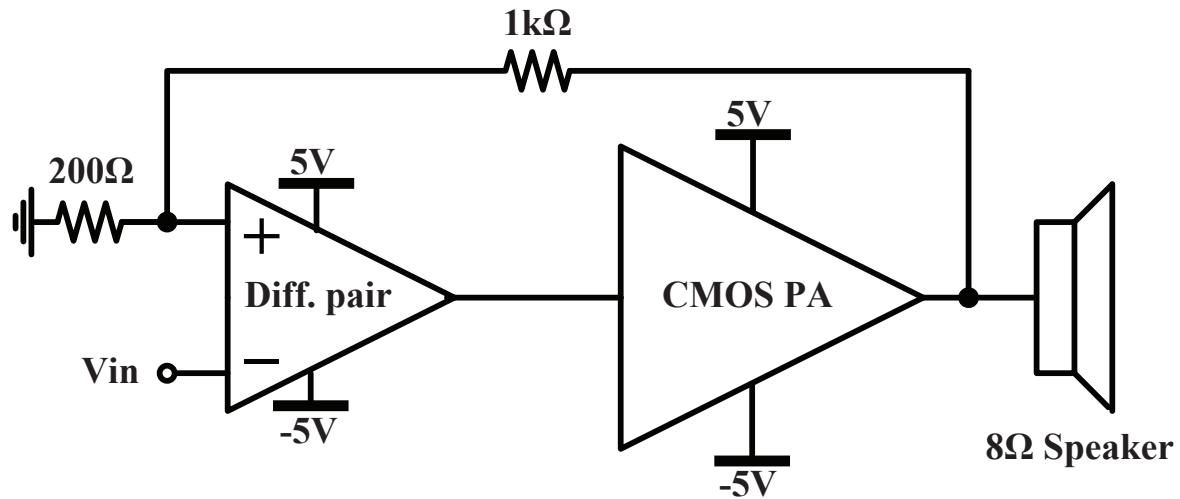
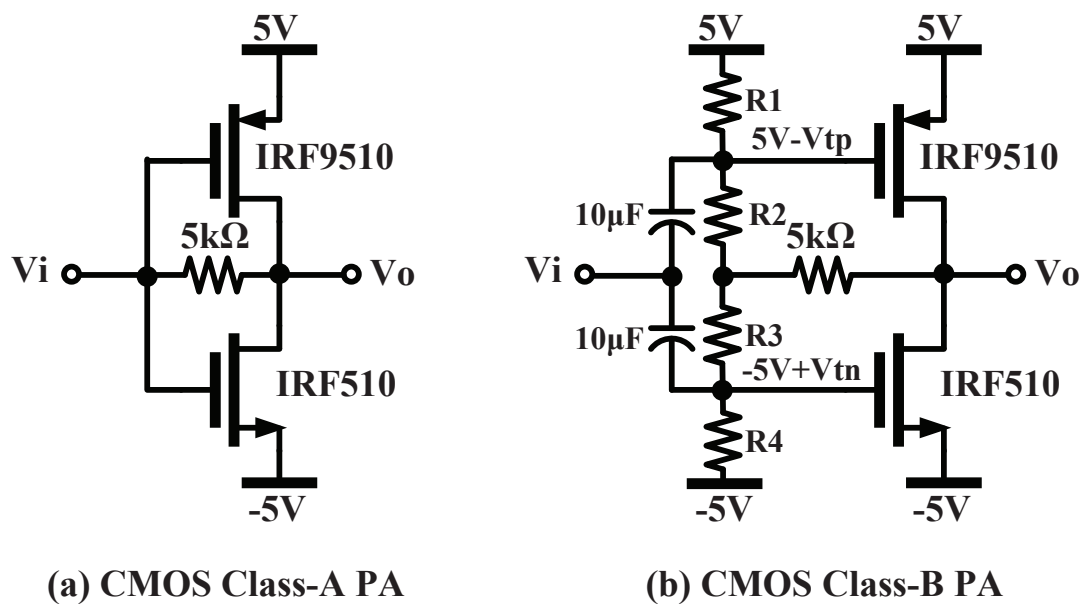

Figure 1: Audio power amplifier with feedback loop
Figure 2: CMOS output stages: a) Class A, b) Class B
Class A PAs are linear but have poor efficiency. In contrast, class B PAs can have very high efficiency but they operate under strong nonlinearities. The linearity of a class B PA can be significantly improved by employing a negative feedback around the power amplifier as shown in Figure 1. The opamp acts as an error amplifier which samples a fraction of the output voltage (V_o) and amplifies the difference between it and the input voltage (V_i).
In this lab, you will simulate and test the Audio Power Amplifier with feedback shown in Figure 1. This system consists of a differential pair, similar to the one in Lab 4, as well as a CMOS PA (also called "output stage"). You will build first a Class-A and then a Class-B output stage as shown in Figure 2. Then, you will build the differential pair, as shown in Figure 3. Finally, you will build the feedback loop around the differential pair and Class-B PA. For the differential pair, you will use transistors ALD1101 and ALD1102 as in Lab 4, while for the CMOS PA, you will use power transistors IRF510 and IRF9510. The power transistors have large $V_{breakdown}$ and are able to sustain large currents and voltages ($> 10A, < 10V$) at their terminals. An $8\text{-}\Omega$ speaker is connected to the output to convert voltage to sound.
1. Run a 50-ms transient simulation for the Class-A output stage in Figure 2 (a) with 1-kHz $1\text{-}V_{pp}$ input. Show the input voltage and output voltage waveform. Set the maximum time step of the transient simulation to $1\text{ }\mu\text{s}$. Plot the output spectrum using the FFT function of the simulator. Find the power consumption of the amplifier when the input signal amplitude is 10mVpp and when it is 1Vpp.
2. Repeat step 1 for the Class-B output stage in Figure 2 (b). Use the value for R_1 , R_2 , R_3 , and R_4 determined in lab 3 such that both the p-MOSFET and the n-MOSFET are biased at threshold (little or no current flowing through them).
3. Determine the gain of the amplifier in Figure 1. What happens to the volume that the speaker would produce when the $1\text{-k}\Omega$ feedback resistor value is varied?
4. The schematics in Figures 2 (a) and (b) use two supplies, 5V and -5V. This arrangement centers the output at 0V and allows us to DC couple the output stage directly to the speaker.
5. Build the linearized power amplifier with feedback in Figure 1 with the class B output stage and set the voltage gain to 4 (by adjusting the $1\text{-k}\Omega$ resistor). Replace the 8Ω load resistor with the speaker. Connect your Class A output stage and apply a sound waveform (from your cellphone or iPod) at the input. Observe the sound quality.